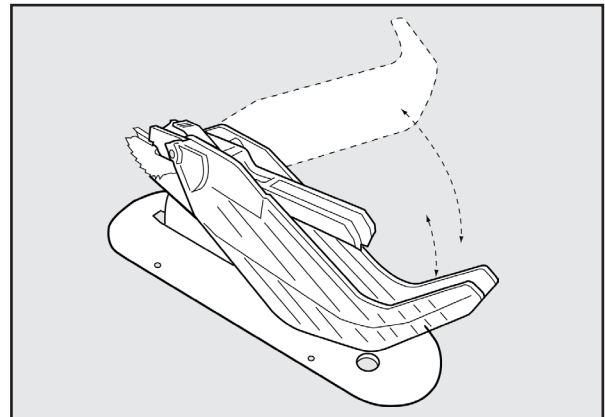

FIGURE 22
1. Refer to Figure 22 and, lifting the guard from the front, raise the guard shield until it snaps into a locked position above the table. One or both guard shields can be raised.